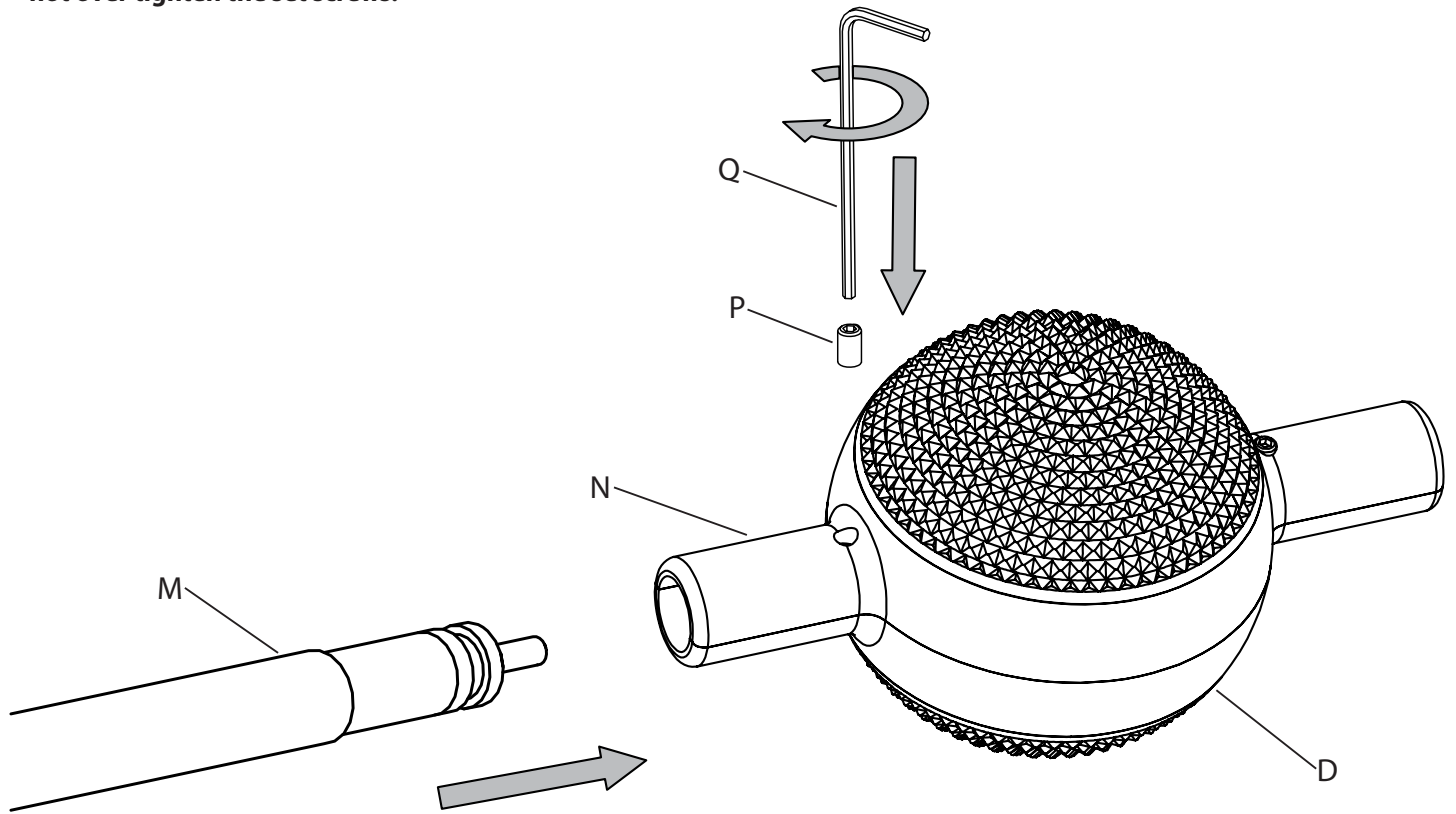
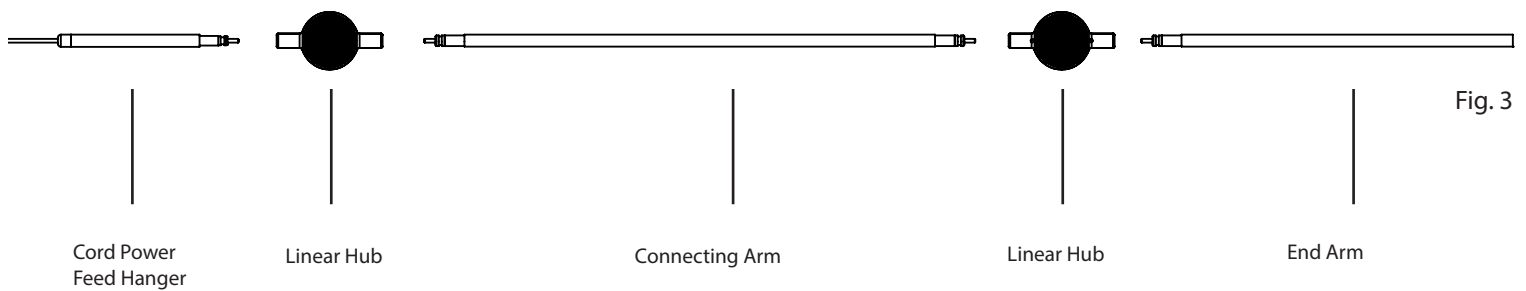

Fig. 2
Fig. 3
Attach a Linear Hub (D) to the end of each Cord Power Feed Hanger (M) by fully inserting into a Neck (N) on the Hub (Fig. 2). Install the M2 Set Screw (P), using the Small Hex Wrench (Q) provided, and tighten until it comes in contact with the plastic cap on the Hanger. Use the diagram (Fig. 3) and the following page for installation pattern. **CAUTION: Do not over tighten the set screws.**